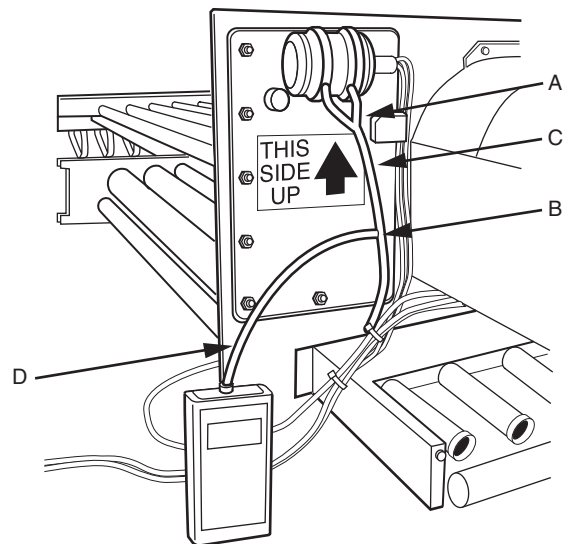

Fig. 88 — Draft Fan Pressure Measurement
1. Remove air pressure supply tube from fan at pressure switch connection. See Fig. 88, A.
2. Insert “T” into supply tube. See Fig. 88, B.
3. Attach additional piece of tubing from “T” to pressure switch. See Fig. 88, C.
4. Connect remaining leg of “T” to pressure measuring device (measure in. wg). See Fig. 88, D.